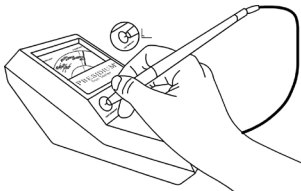

Fig. 1.4
- Press the probe tip onto the simulant test disc located on the left of the indicator lamp (**Fig. 1.4**). Apply sufficient pressure to retract the protruding tip completely into the probe pen. The indicator should rise to and remain within the white strip (preferably at the center of white strip) with “CAL” printed on top, within two to three seconds.